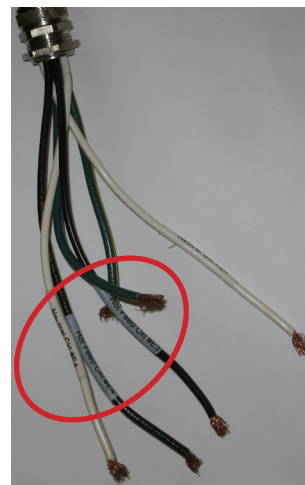

Figure 7.2 - Wire Labeling Locations
8. Each conduit contains wires that are sequentially labeled (e.g., E1, E2, E3, etc.) and correspond to the specific circuit (see Figure 7.2 for illustration).